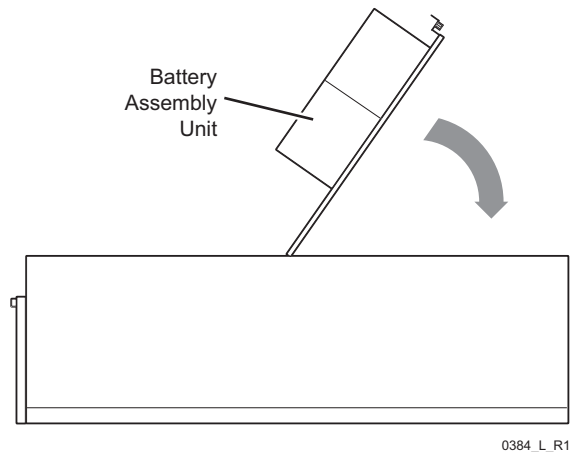

Figure 18-4. Flip the battery assembly upside down.
- 12 Flip the battery assembly upside down on the power supply as shown in Figure 18-4.